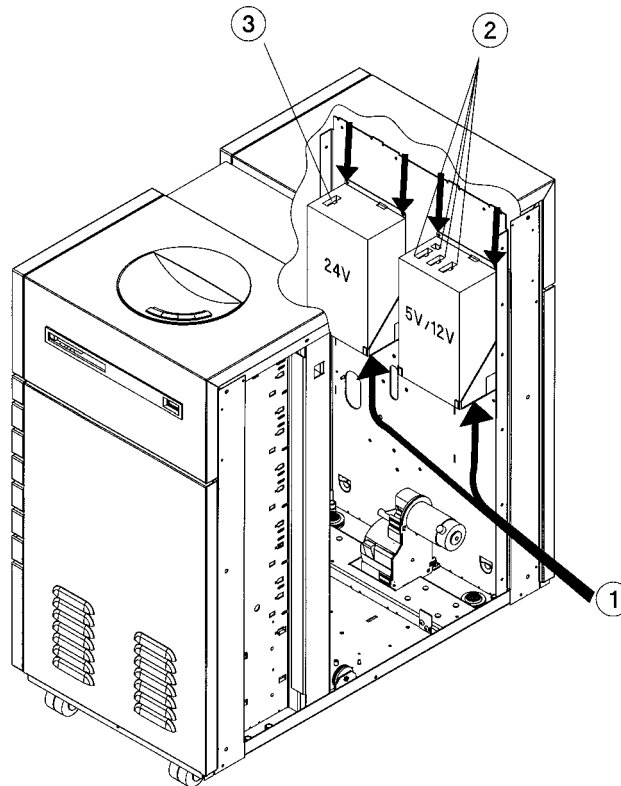

Figure 16: Cables and Mounting Screws on the Power Supplies
2. Remove the power plug from the bottom of the power supply (see #1 on Figure 16).
3. Disconnect the cables from the top of the supply (see Figure 16).
4. Remove the two T-20 screws at the top of the supply (see arrows on top of power supplies in Figure 16).